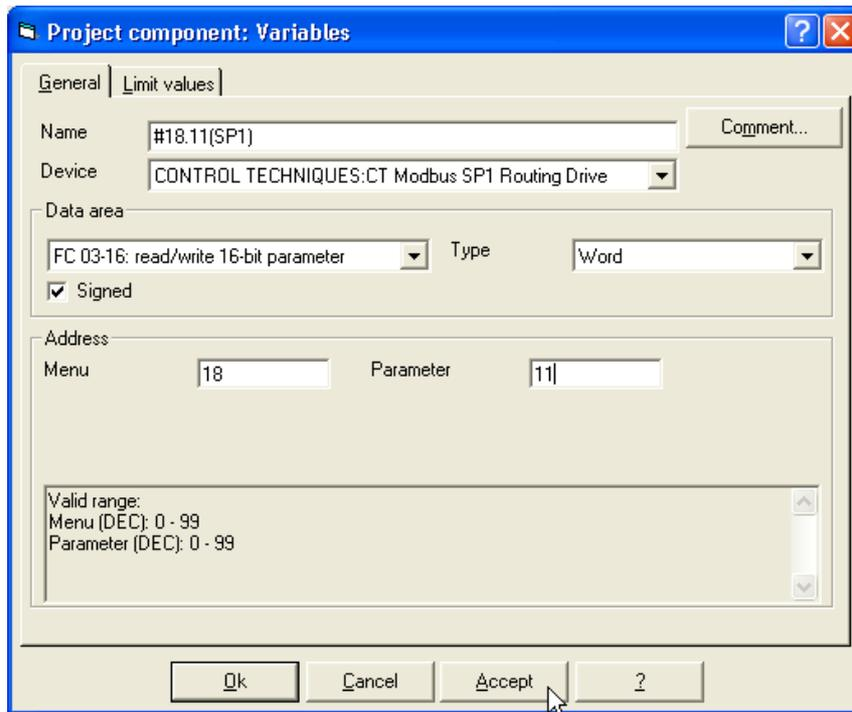

Fig. 11.
3.10 For **#18.11(SP1)** variable, the *Project Components: Variable* window will look like the one shown in Fig. 11. After filling all the fields, press the *Accept* and *Ok* buttons in this order.